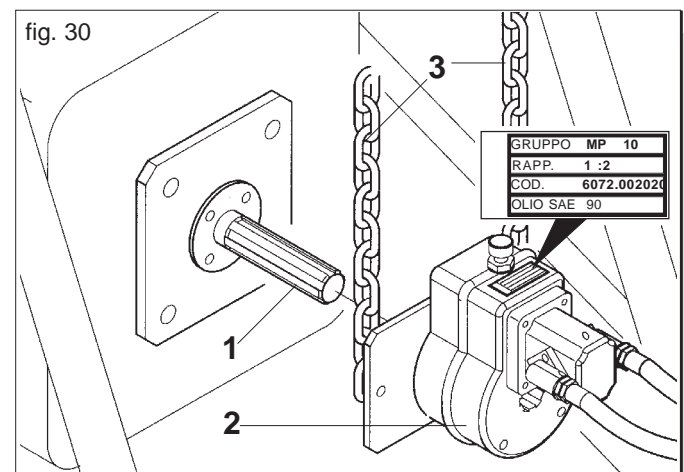

fig. 30
Clean and grease the tractor power take-off. (1 Fig. 30).
Connect the multiplier (2) to the machinery power take-off as shown in figure 30.